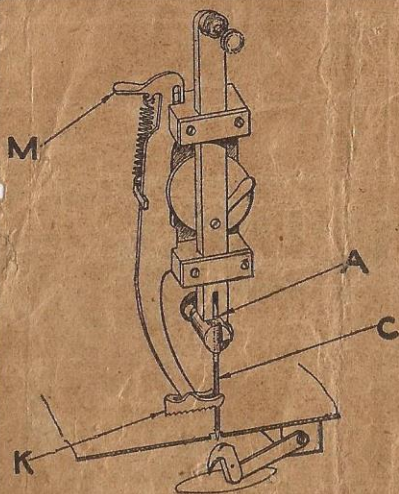
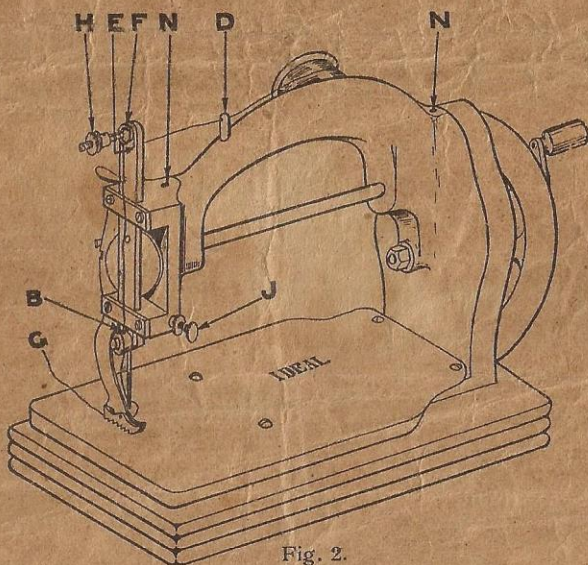

Fig. 1.
Fig. 2.
2. The needle should be placed in the groove of the needle bar (A) (Fig. 1), and should not project beyond the top of the holder (B) (Fig. 2). The long groove of the needle should face the operator when viewing the machine from the end as at (C) (Fig. 1).
3. **Threading the Machine.** The cotton should be passed through the small hole in the cotton guide (D) on the top of the machine, then through the hole (E) in the needle bar and round between the tension disc (F), then through the small hole of needle holder (B), then thread the needle from the left (Fig. 2) carrying the thread between the presser foot and leaving a trail of about two inches as at (G).
5. **The Tension Nut (H)** on the top of the needle bar must be adjusted according to the thickness of material worked. A fine material requiring a loose tension and a thicker material a tighter tension. To loosen tension (H) unscrew outside nut and turn inside nut half a turn away from you, then tighten outside screw again. To tighten tension unscrew outside nut (H) and turn inside toward you half a turn and tighten outside nut again.
7. **Putting in the Work.** Raise Presser Foot (K) by lifting (M) (Fig. 1). Also raise needle by turning hand wheel. Put the material and cotton under the presser foot, then drop same by pressing (M).
8. **Taking out Work.** Raise needle by turning hand wheel, away from you, then raise presser (M) and draw two inches of cotton down from tension (F) (Fig. 2), draw cotton forward from between needle point and work, with scissors, and then cut cotton; then draw material from back of machine; the stitch is then locked.
12. **The Machine** should be oiled before using and kept oiled through the oil holes provided, (N) (Fig. 2), with best sewing machine oil.